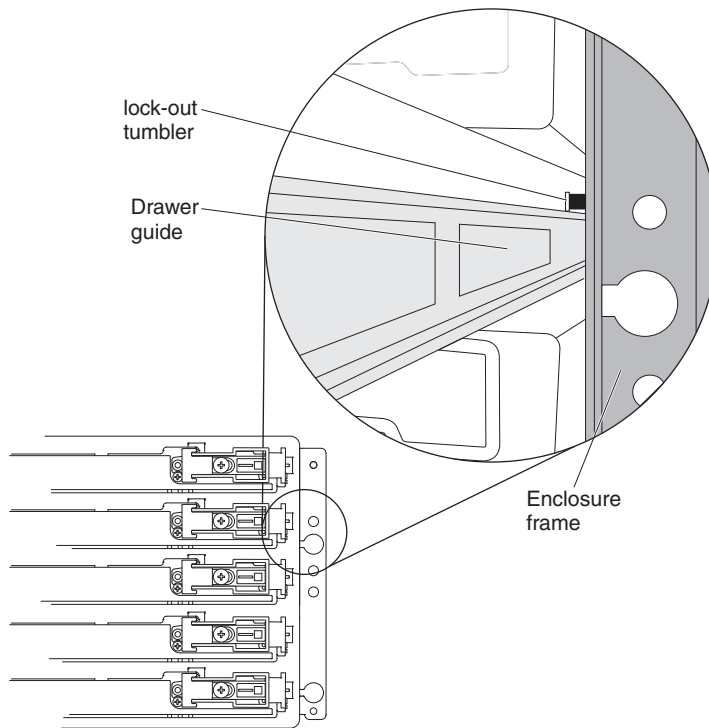

Figure 62. Lock-out tumbler located above the drawer guide
- a. At the front of the storage expansion enclosure, install the new drive drawer into the slot, making sure the lock-out tumbler is located on the top of the drawer guide. The lock-out tumbler is a small alignment piece that is attached to the frame. Figure 62 on page 114 indicates the location of the lock-out tumbler as shown from the front of the enclosure.